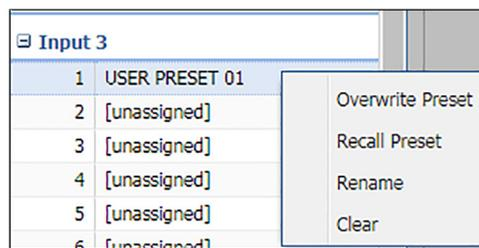

Figure 78. Renaming a Preset
3. On the confirmation dialog box, click the **Overwrite** button (see figure 78, ①, on the previous page) to erase the previous data and save the new settings, or click the **Cancel** button (②) to return to the Preset Management page.